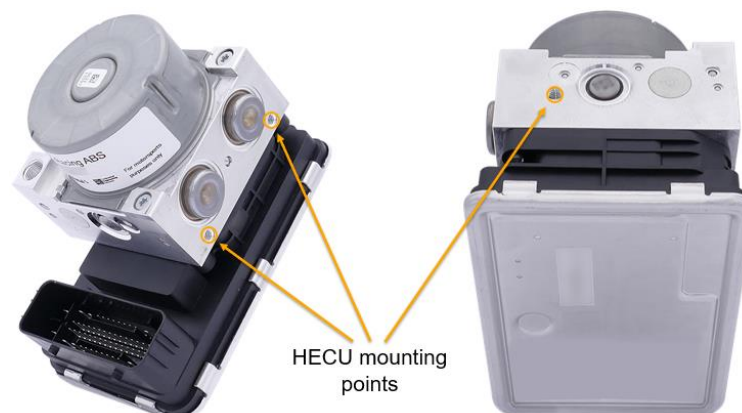

Figure 8: HECU mounting points
- Use at least two of the three possible mounting points, shown in Figure 8.
The two low-pressure accumulators (shown on the left side of Figure 8 above the two mounting points) must not touch the bracket.